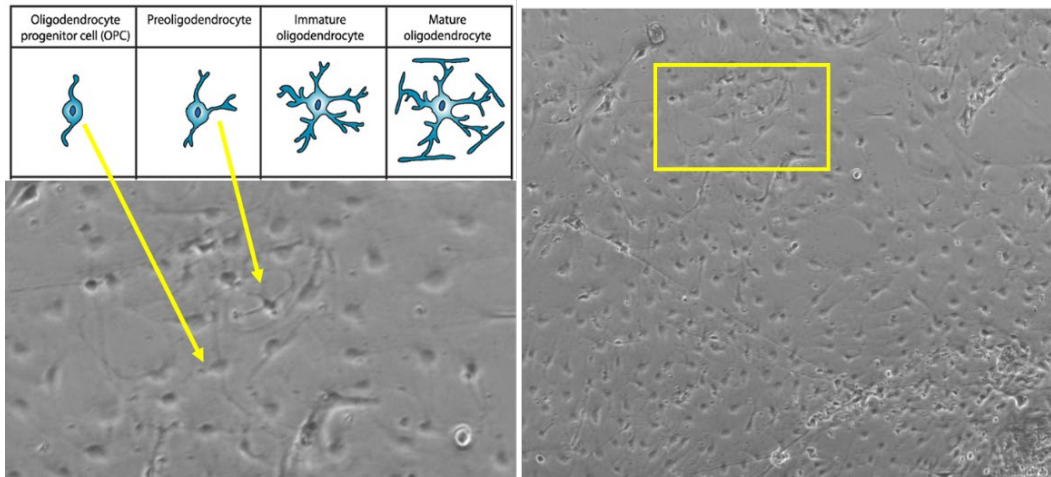

Figure 3. Morphology of OPCs at day 55 of differentiation
- Every other day carefully replenish two-thirds of the medium with fresh PDGF medium until day 75 of differentiation. After day 55 most of the cells should show a bipolar or tri-polar morphology typical of OPCs (see **Figure 3**).